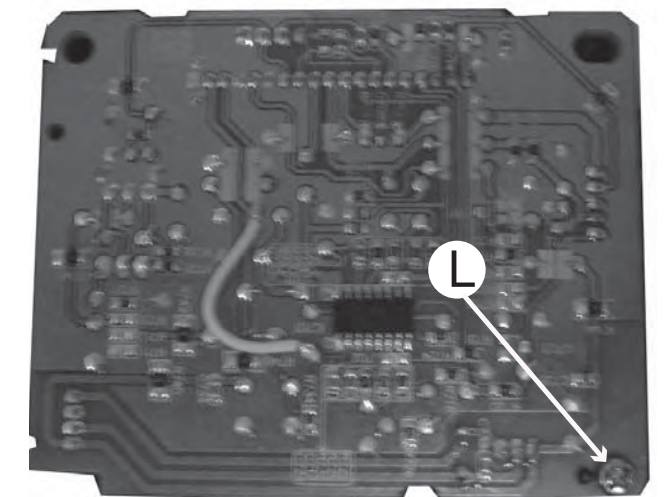

Figure 15
- 3) Loosen 1 screw " L " to remove the tape board assembly as shown in figure 15.